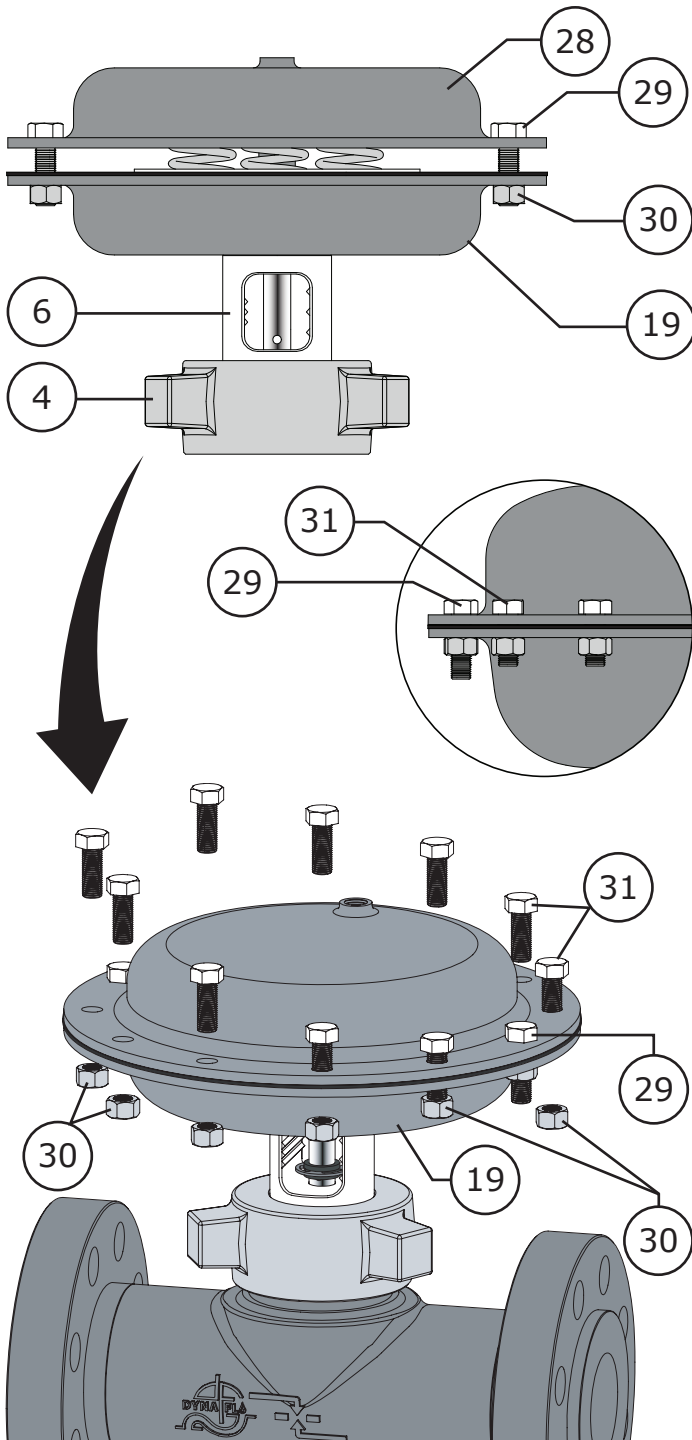

Figure 43 Short Cap Screw Installation (Fail Closed)
- 14 Using two 9/16" wrenches or socket set, evenly tighten the two **long** cap screws (Key 29) using an alternating pattern until the 10 **short** cap screws (Key 31) can be installed and the nuts (Key 30) threaded on. It is not recommended to completely tighten any of the cap screws until they are all inserted through the casings (Keys 19 & 28) as the diaphragm (Key 23) may need to shift during installation. Refer to Figure 43.